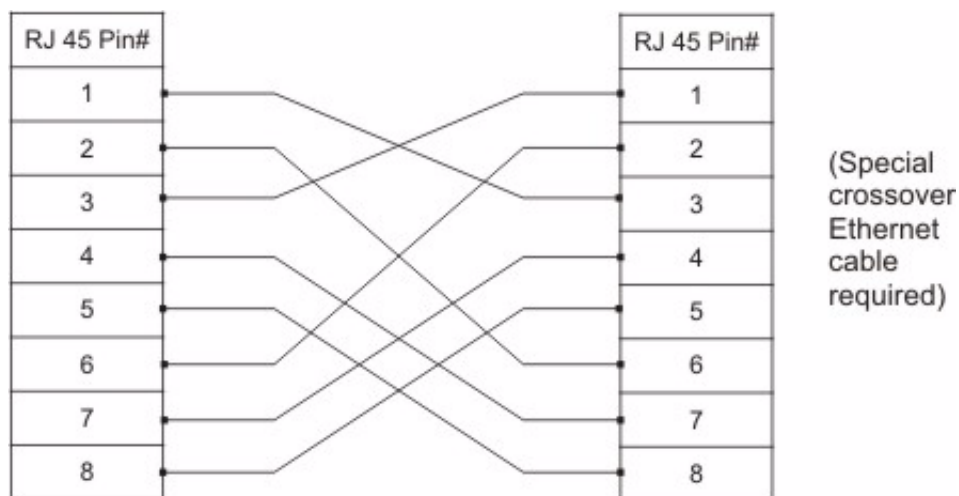
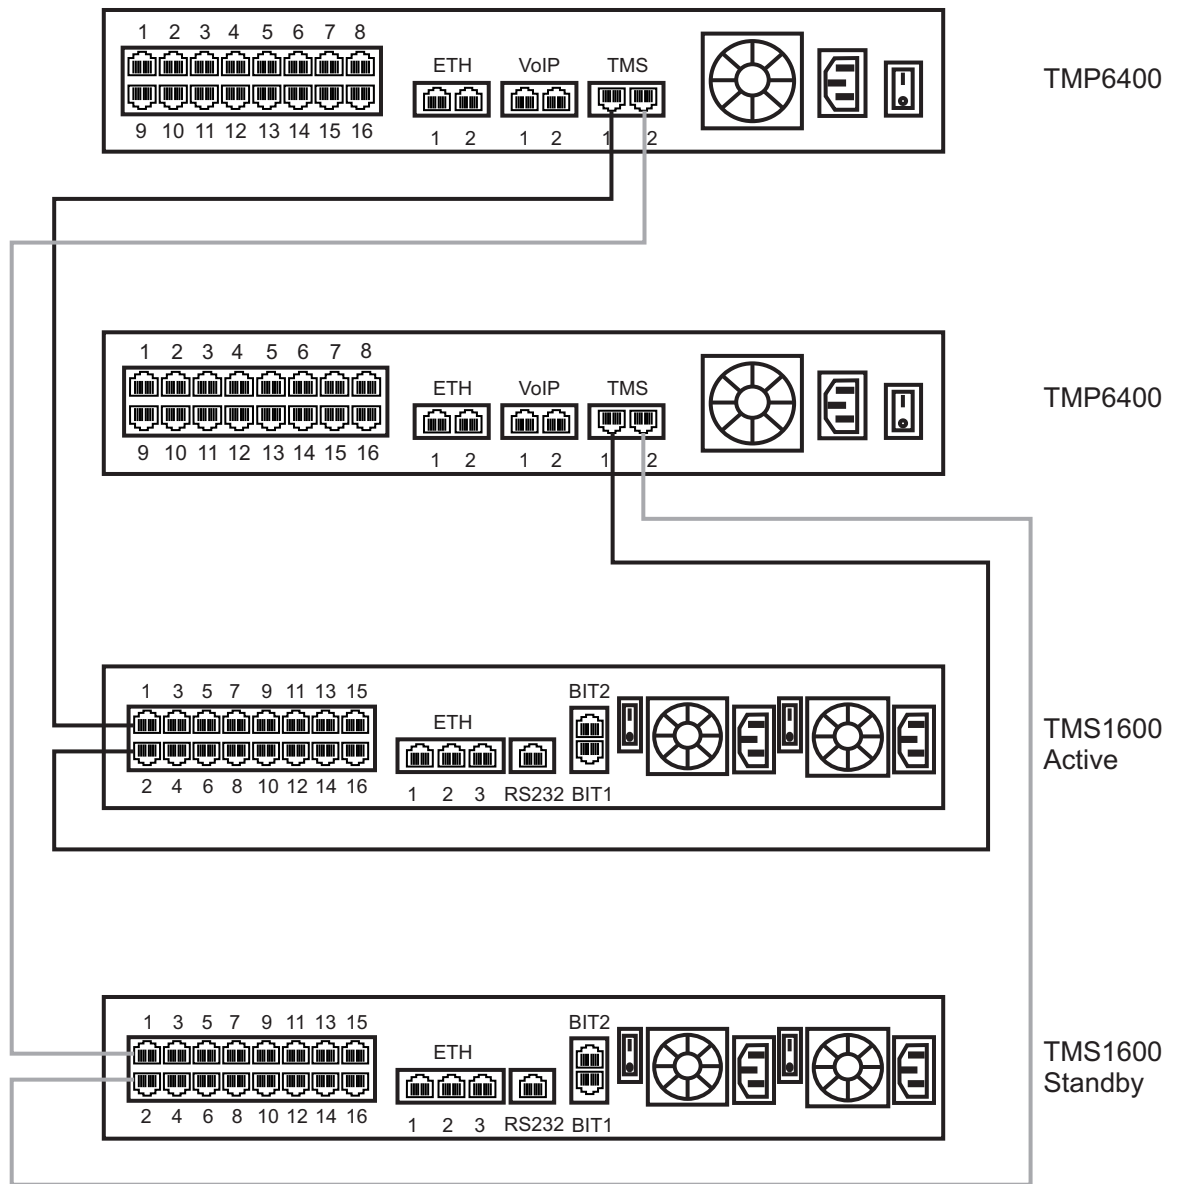

Figure 2.12 Ethernet Crossover Cable
Figure 2.13 Example of Interconnecting 2 TMP6400s to an active and standby TMS1600
The resources of the TMP6400s are made available to each other by the connection to one or optionally two TMS1600s, as shown in figure 2.13 on page 24. See figure 2.12 on page 23 for an Ethernet crossover wiring diagram.
1. Start with the TMP6400 at the topmost position of the equipment rack and connect a CAT7 shielded Ethernet crossover cable to TMS1 at the rear of the TMP6400 figure 2.13 on page 24. Connect the other end of the same CAT7 cable to the first port of the first TMS1600.
2. If your system employs a second TMS1600, connect a second CAT7 shielded Ethernet crossover cable to TMS2 at the rear of the TMP6400 figure 2.13 on page 24. Connect the other end of the same CAT7 cable to the first port of a second TMS1600.